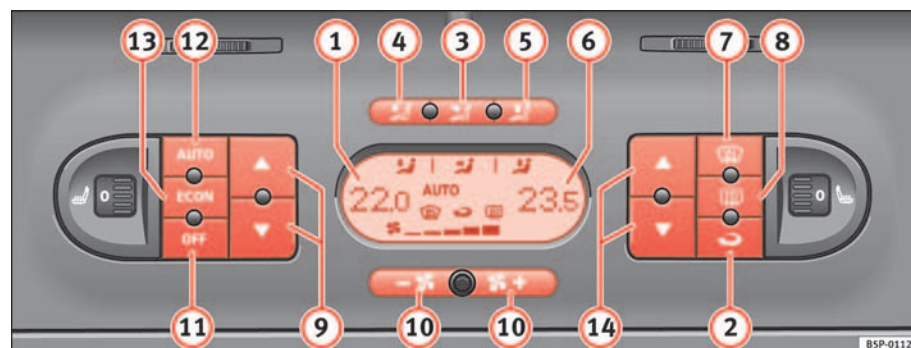

Fig. 125 On the dash panel: 2C Climatronic controls
- Press the temperature control buttons $\Rightarrow$ page 152, fig. 125 ⑨ or ⑭ in order to adjust the temperature on the left hand side or the right hand side respectively.
- Press the button  $\Rightarrow$ page 152, fig. 125. “AUTO” is shown on the display. ▶